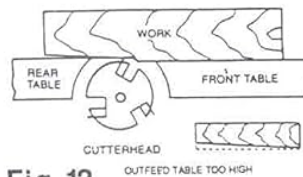
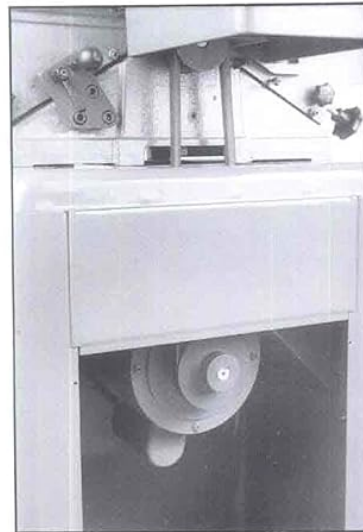

Fig. 12
Fig. 15
If the outfeed table is set too high, a curved finished surface results. (Fig. 12)
2. Pull V-belt down and place onto motor pulley. (Fig. 15)
Figure 2: Visual guide for V-belt installation and proper outfeed table adjustments. Figures 12, 13, 14 show outfeed table settings. Figures 15 and 16 show V-belt installation steps.
1. Place the V-belt onto the cutterhead pulley and through the opening in the stand (Figure 15).